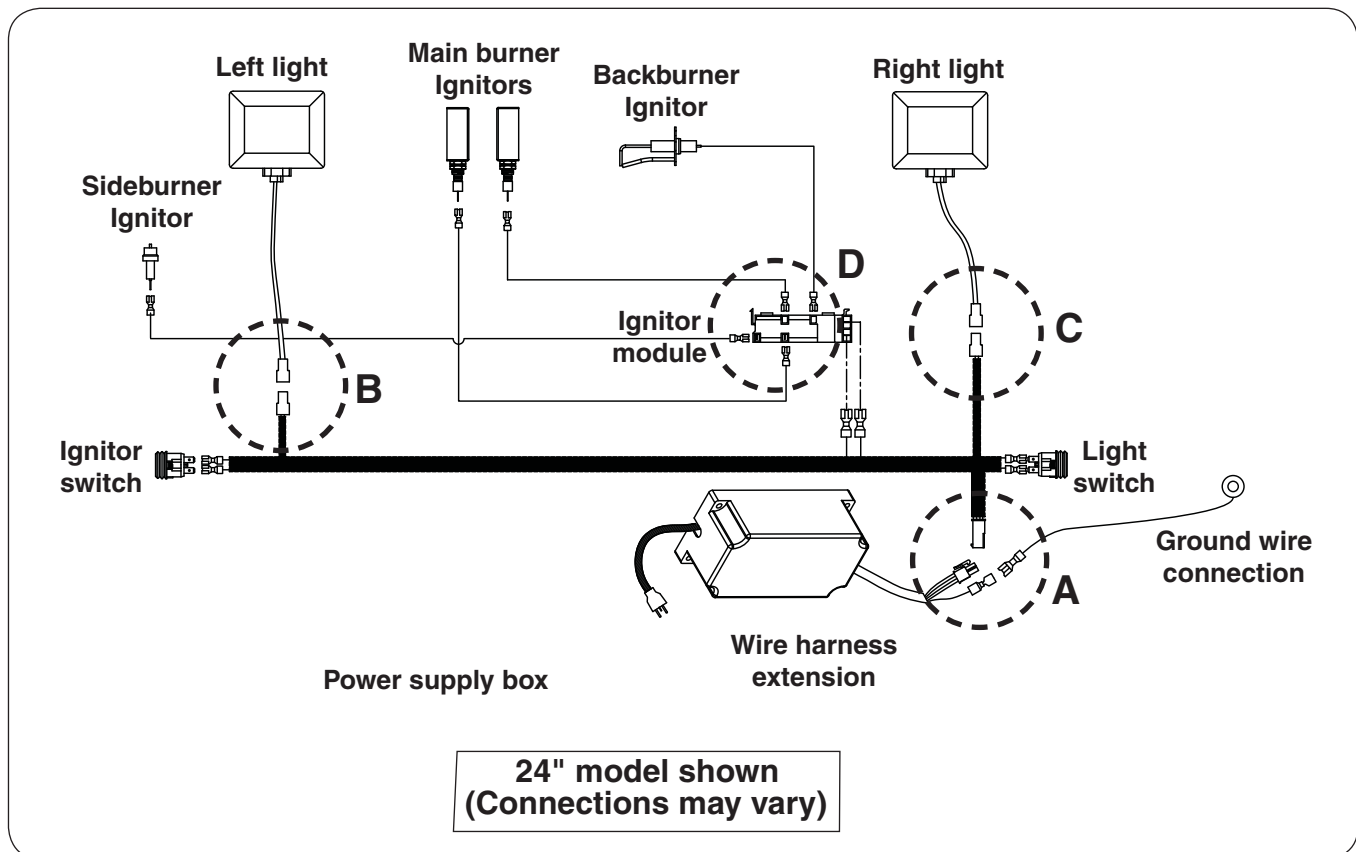

Fig. 31-1 - Wire diagram
2. Disconnect the main wire harness connections (A), the left light connection (B), the right light connection (C), and the ignitor wires (D). It is recommended to temporarily label the wires for reference when reconnecting. See Fig. 31-1. When disconnecting, be sure to pull from the connectors, and not the wires.